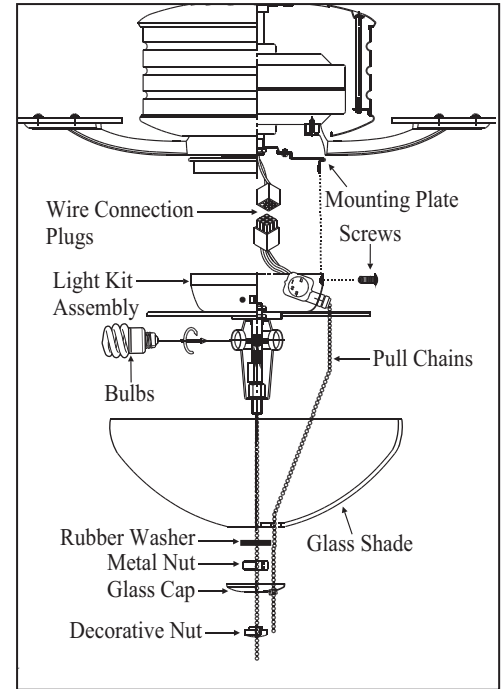

Figure 16
2. Carefully push all wires back into the switch housing, then install the light kit assembly onto the mounting plate with 3 screws provided. Be sure to tighten all screws. (Fig. 16)
4. Remove the rubber washer, metal nut, glass cap and decorative nut from the light kit. Place glass shade over the light kit stem, secure with the rubber washer, metal nut, glass cap and decorative nut. Do not overtighten. (Fig. 16)
5. Insert the 2 pull chain through the eyelet in the shade and cap. Secure the glass cap and decorative nut provided. (Fig. 16)